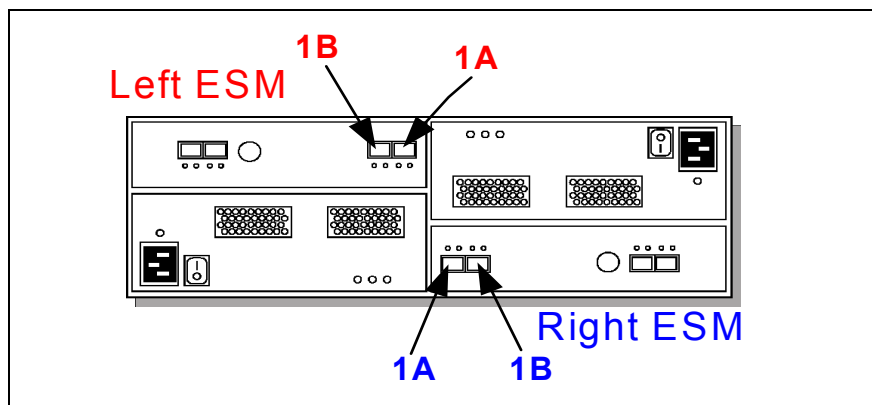

Figure 3-15 Port labels on EXP420
- ▶ The DS4200 controller drive port must always be connected to the EXP420 port labelled 1B. Because the left and right EXP420 ESMs (ESMs A and B) are inserted in the ESM bays in different orientations, ensure that you use the port labeled 1B before making the Fibre Channel connection to the DS4200 storage server. Refer to Figure 3-15.